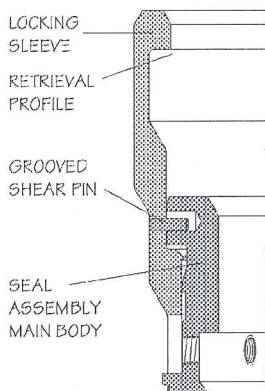

Figure 5. Grooved pin detail
4. Refer to **Figure 5**. Inspect the retrieval profile on the top ID of the locking sleeve. The latch ring on the Multi-Purpose Tool engages this profile. Ensure the lip is continuous and free of damage. Repair any gouges that may interfere with the latch ring operation.